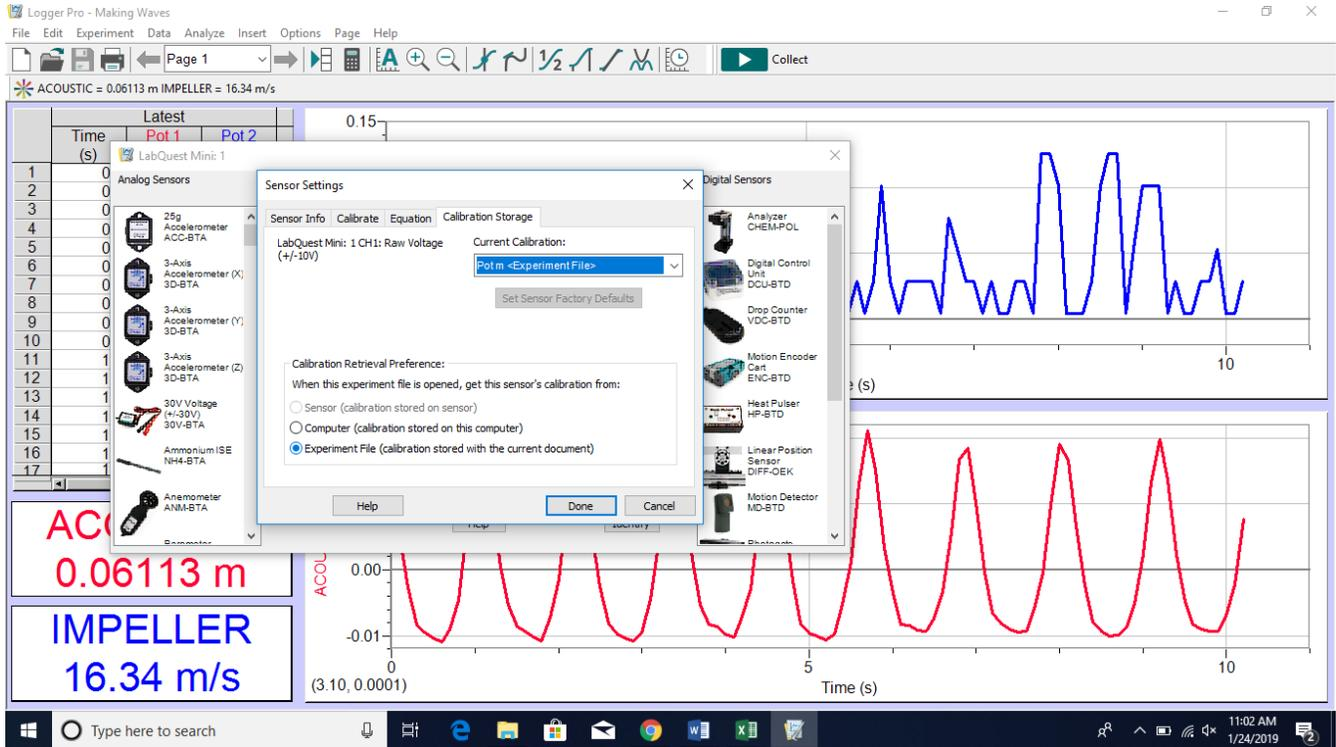

Figure A32. LoggerPro screenshot showing options for setting up sensors – calibration storage (ONLY IF NEEDED).
- To save calibrations, click “Calibration Storage” tab and then select the calibration equations to be saved in the experiment file (Figure A32).